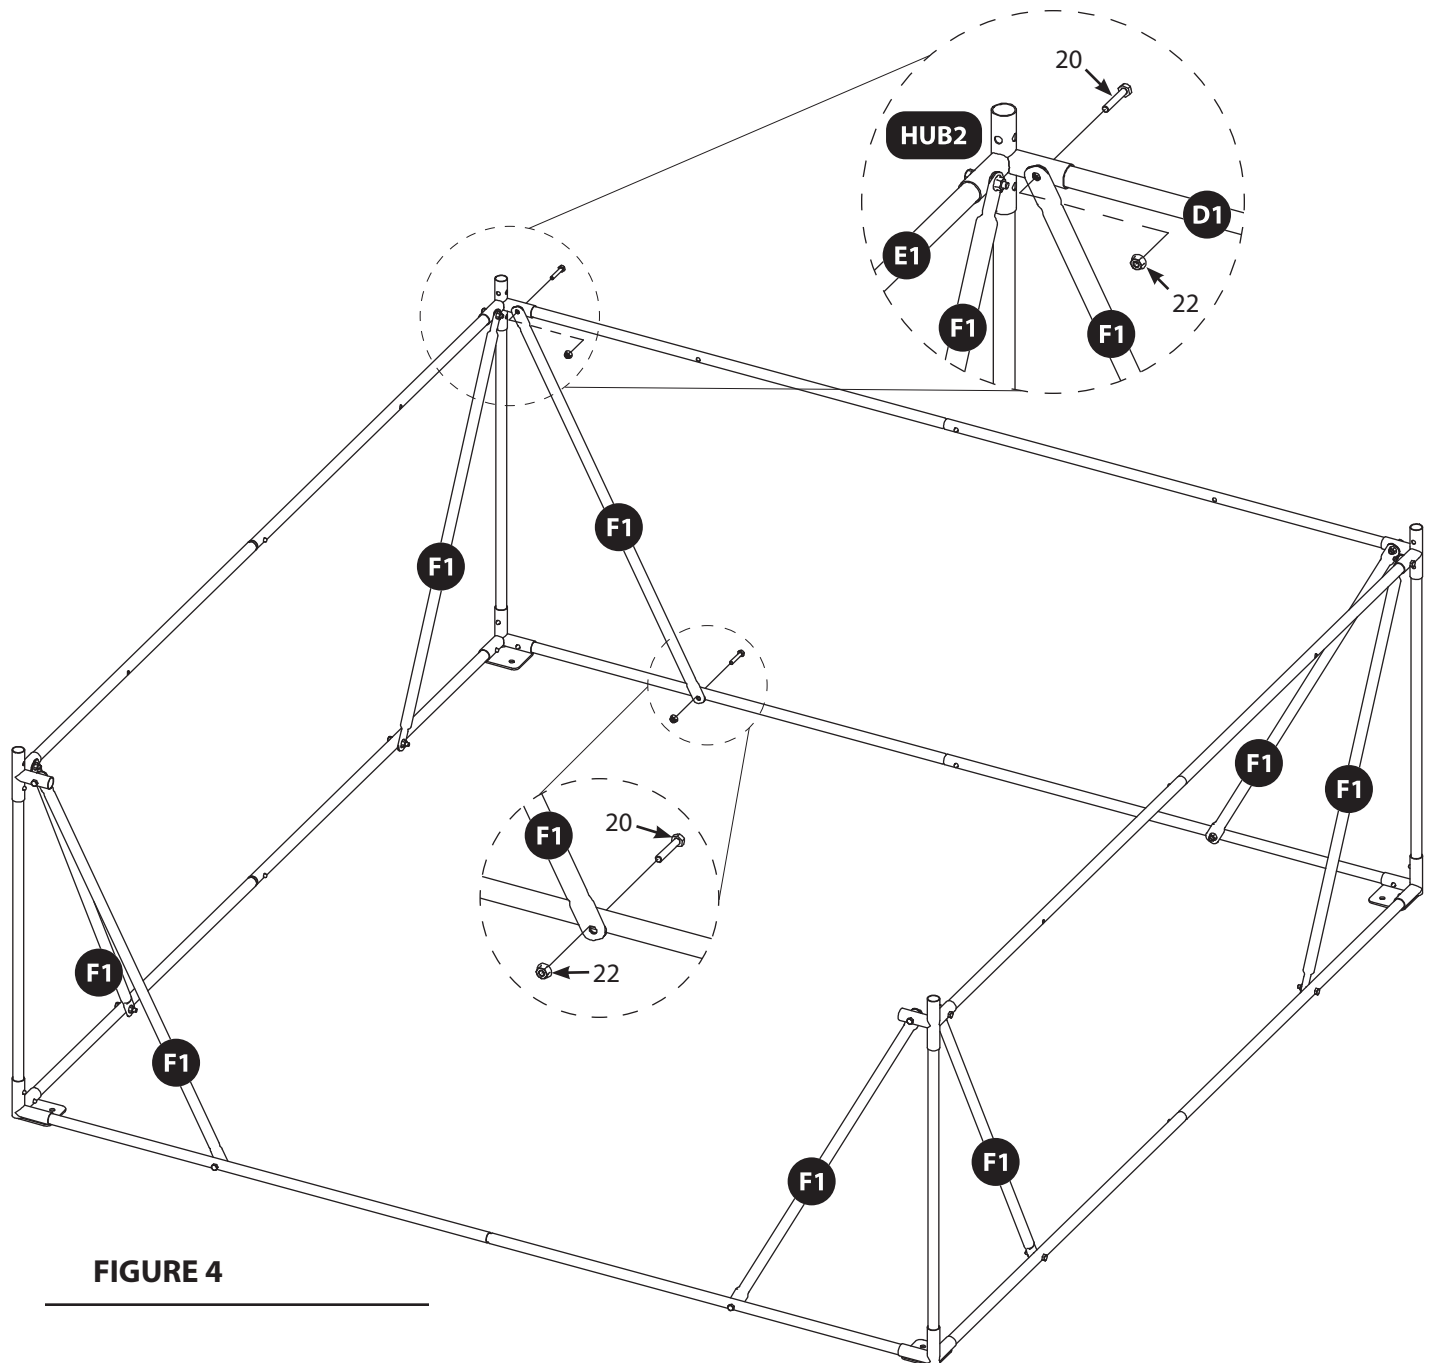

FIGURE 4
9. Attach each of the eight F1 poles to the bottom and middle tiers of the blind frame using two M6 x 35mm bolts (20) and M6 nuts (22). Make sure upper bolts are securing the D1 and E1 poles along with the F1 poles. **SEE FIGURE 4.**